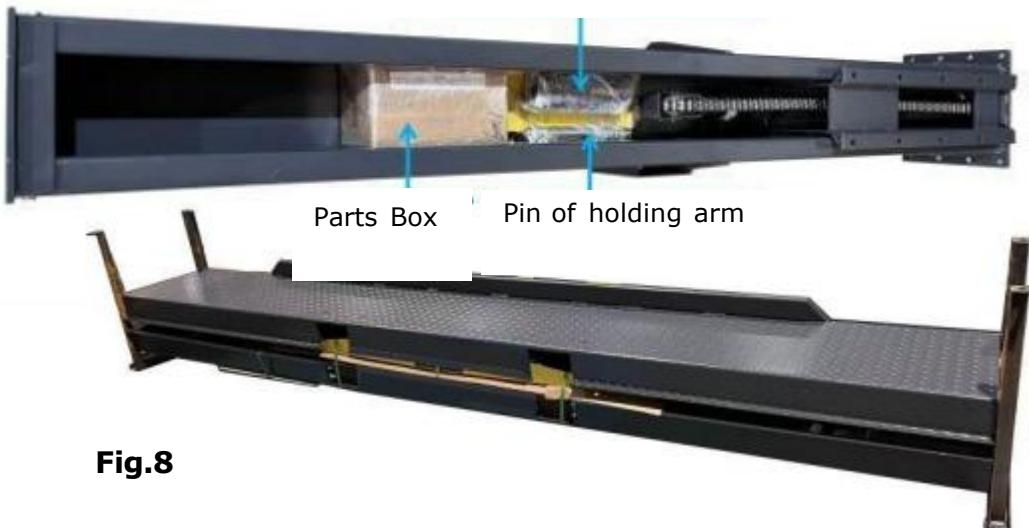

Fig.8
2. Move the lift aside with a forklift or hoist, open the package and take off the post with forklift. **(See Fig. 8)**